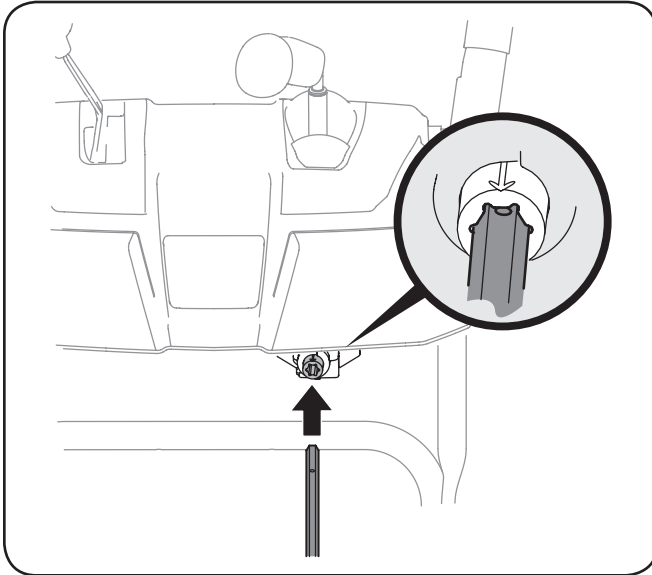

Figure 3-8
6. Insert the chute control rod into the pinion gear below the joystick. Make sure to line up the hole in the rod with the arrow on the pinion gear. See Figure 3-8.